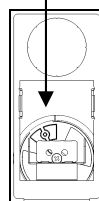

Figure 6
7. Re-Install the spiral back into the tray selection at 12 o'clock position as shown (See Fig. 6)